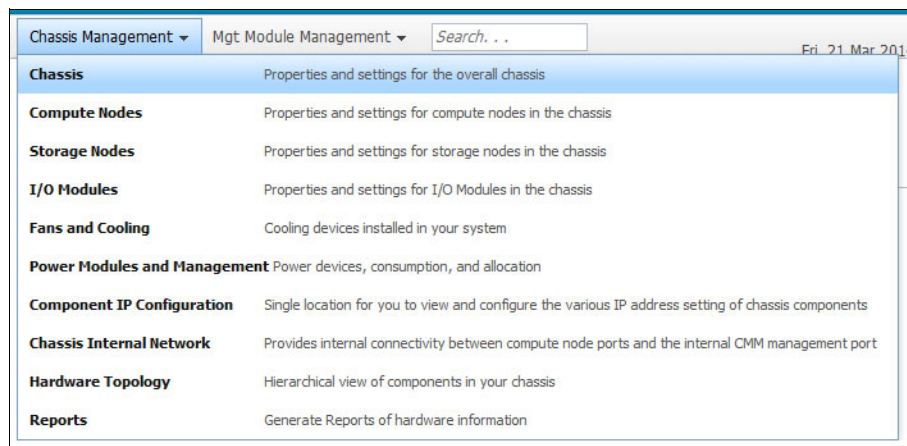

Figure 7-10 CMM Chassis Management drop-down menu
- Chassis Management, shown in Figure 7-10.